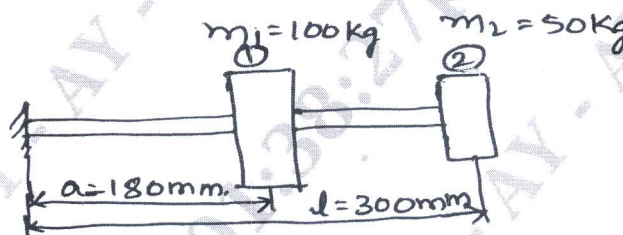

Fig.Q10(b)
b. Find the lowest natural frequency of vibration for the system shown in Fig.Q10(b) by Rayleigh's method. $E = 1.96 \times 10^{11} \text{ N/m}^2$, $I = 4 \times 10^{-7} \text{ m}^4$.